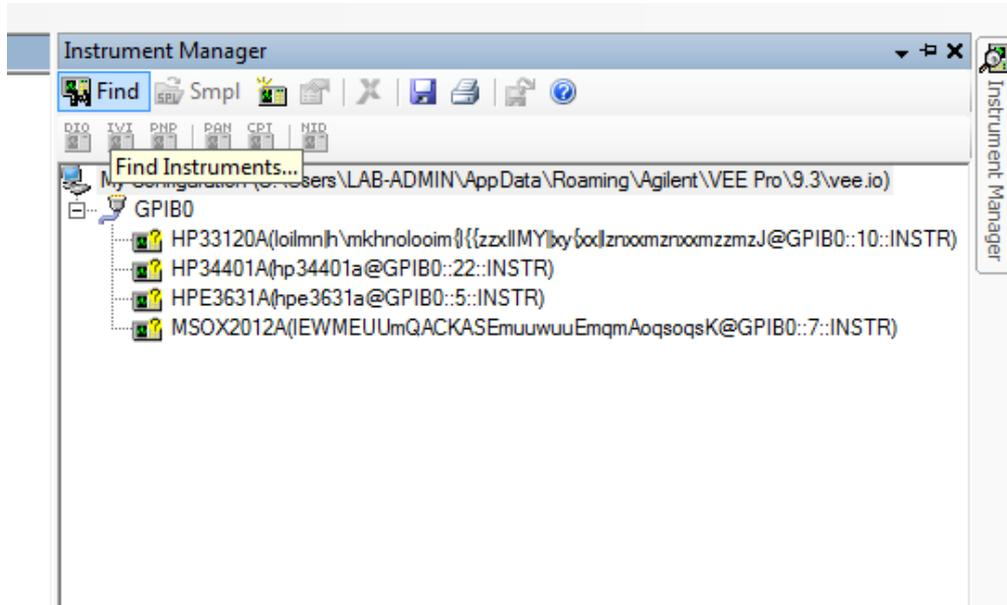

Fig. 10: Finding connected instruments
- 4) Move the mouse cursor on **Instrument Manager** at the right side of the work area. You will see an opened window. Click **Find** button to see the connected instruments as shown in Fig. 10. Click **OK** in all opened windows.